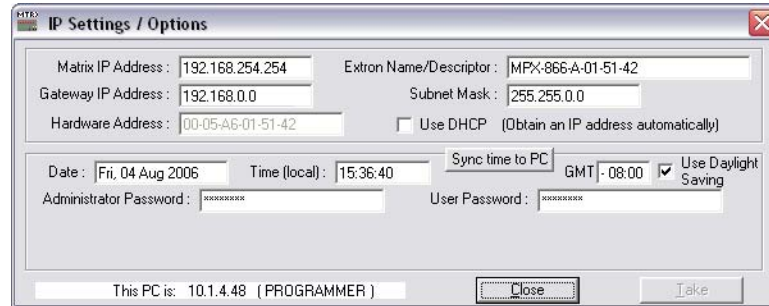

Figure 5-26 — Control program IP setting/options window
- If desired, on the task bar, click **Tools > IP Options** to set the switcher's IP parameters in the IP Settings/Options window (figure 5-26).
The IP Settings/Options window (click **Tools** > **IP options**, figure 5-26) provides a location for viewing and, if connected via one of the RS-232 ports or if logged on via the Ethernet port as an administrator, editing settings unique to the Ethernet interface. See appendix A, "Ethernet Connection", for basic information about IP addresses. None of the fields on this screen can be edited while you are logged on as a user.